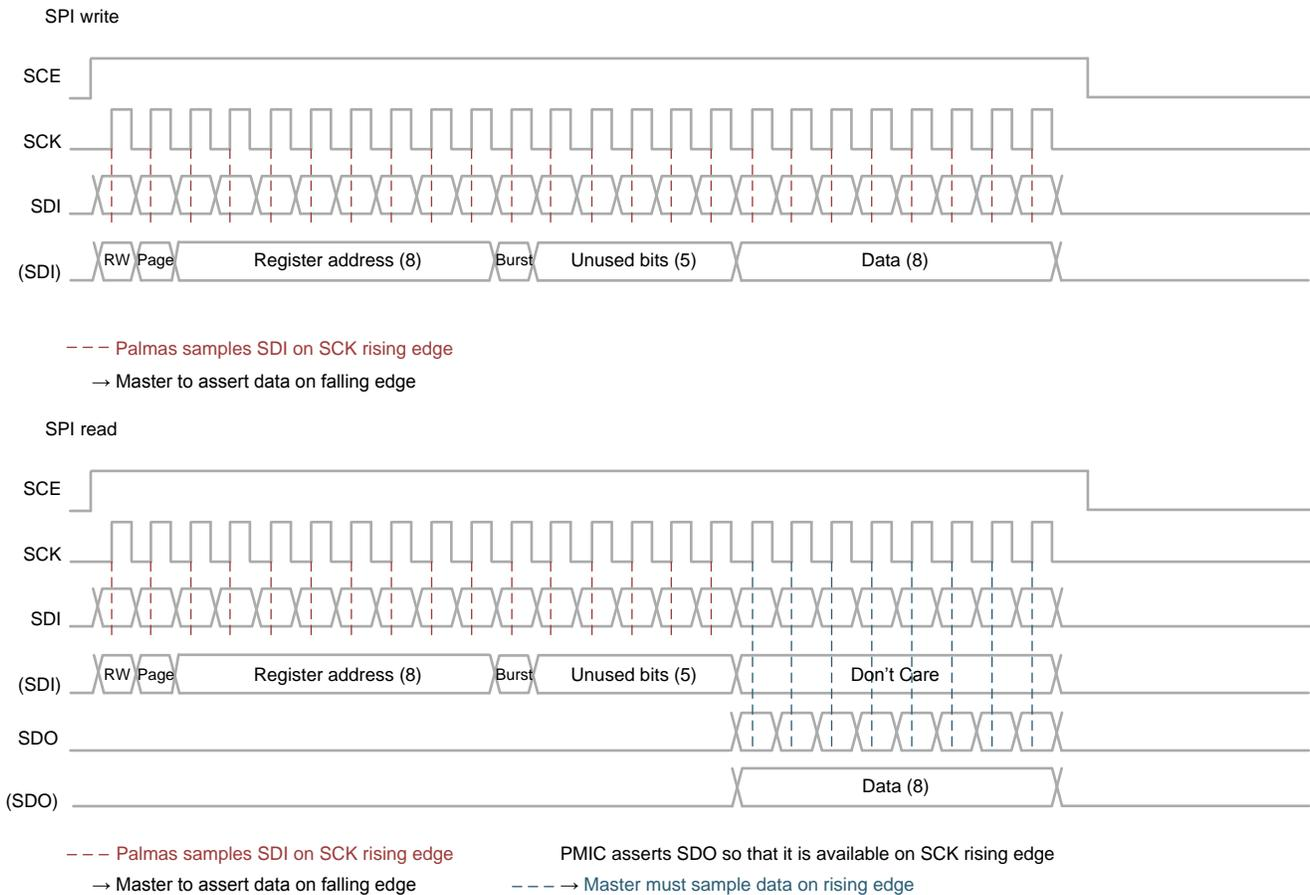
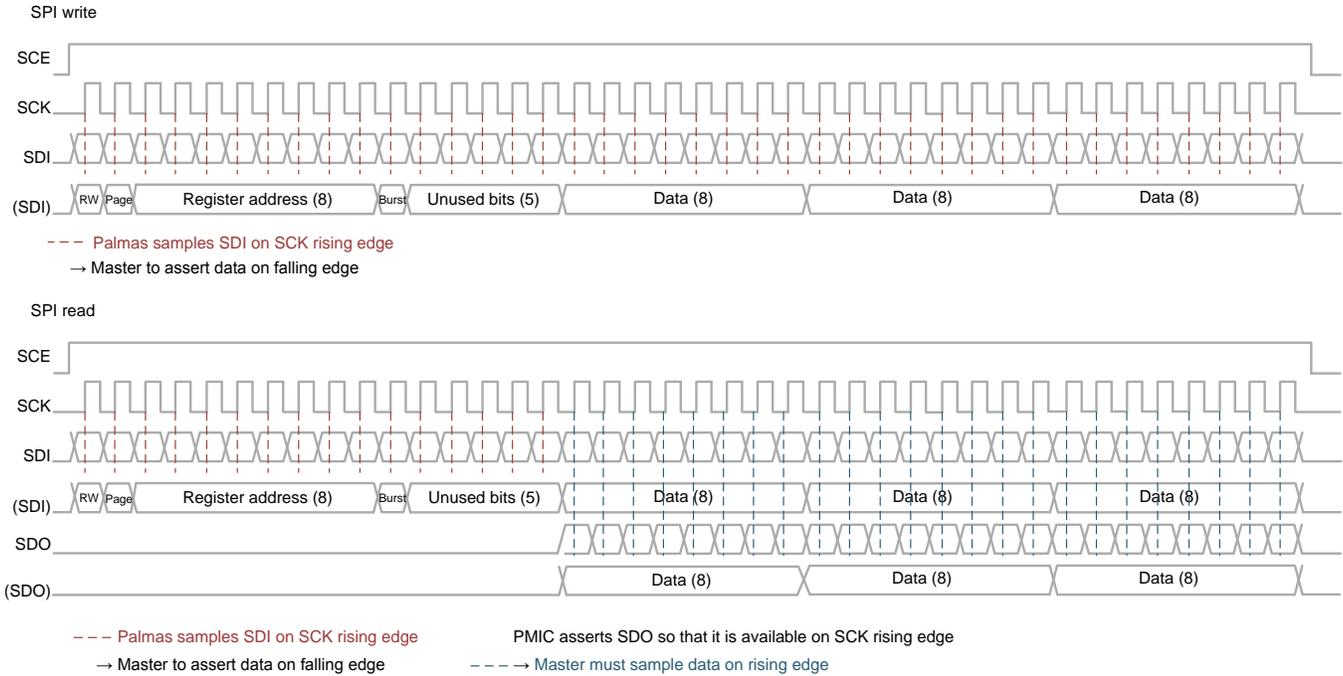

Figure 5-21. SPI Single Read and Write Access
Figure 5-22. SPI Burst Read and Write Access
- This mode consists of fetching and storing several data at contiguous locations. The protocol is shown in Figure 5-22.
Figure 5-21 shows the SPI protocol for a single read and write access. Figure 5-22 shows the SPI protocol for a burst read and write access.